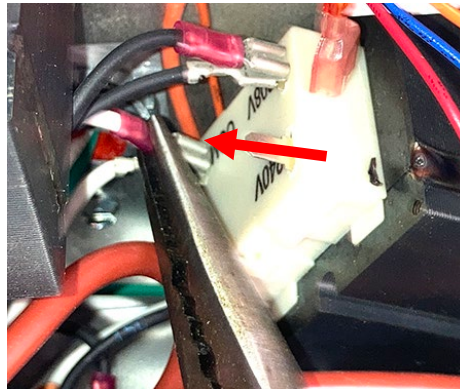

Figure 33
- o. Disconnect the white wires from the lower transformer (see Figure 33) or use enclosed Wago snap wire connectors, if necessary, to splice into the wires.